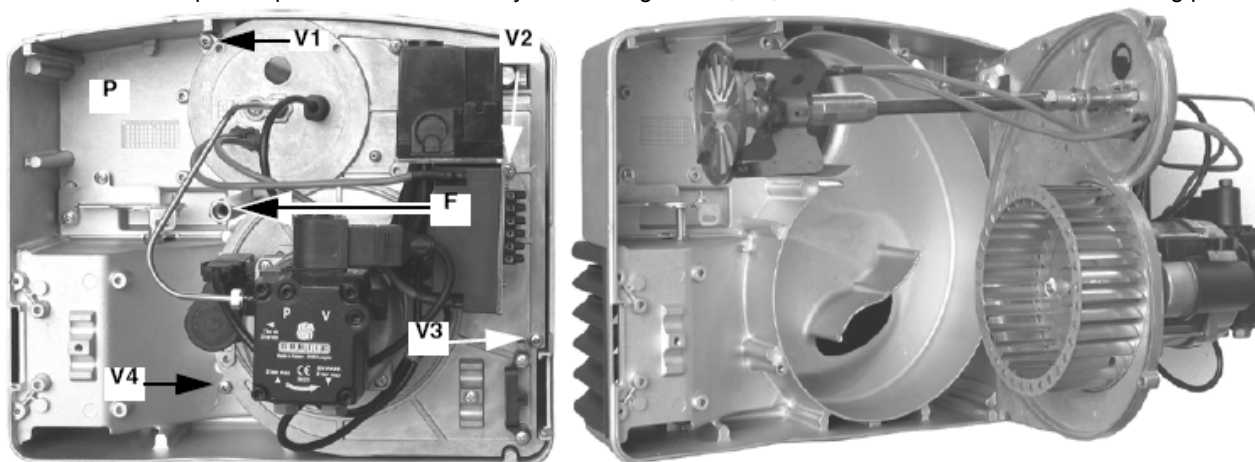

Fig. 9
4. Hang the plate in the way shown in Fig. 9 in order to facilitate maintenance operations.